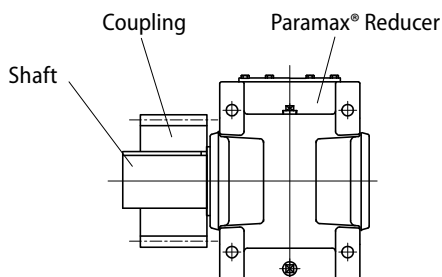
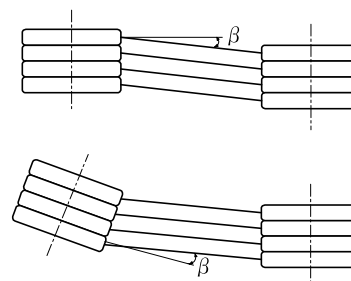

Fig. 9
Fig. 10
(2) Chain, Sprocket and Gear
- Position the sprocket and gear as close to Paramax® reducer as possible so the load point will be close to the reducer's vertical centerline (Fig. 9).
(3) V belt
- Eccentricity of parallelism between two pulleys must be less than 0.5° (Fig. 10).